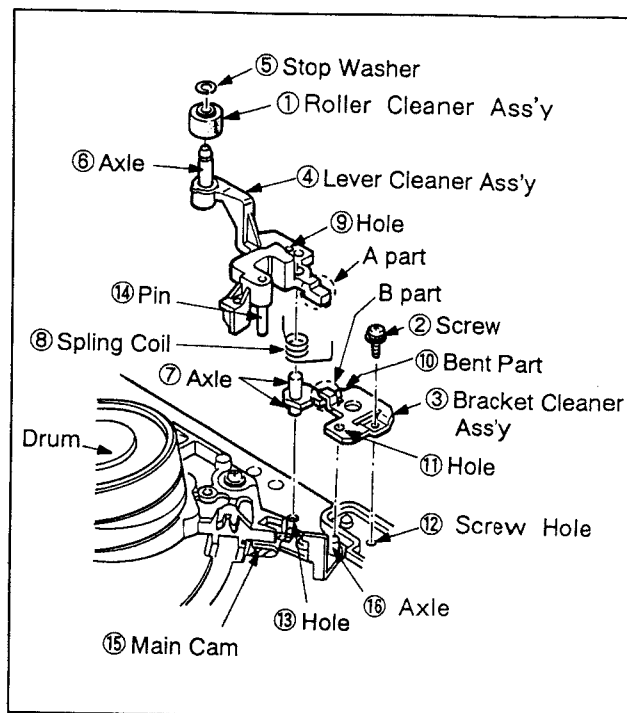
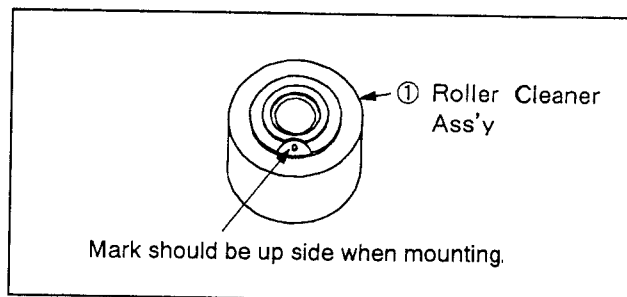
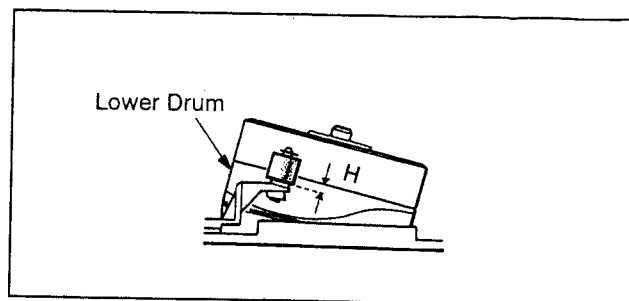

Fig. 5-13-1
Fig. 5-13-2
Fig. 5-13-3
5-13. AUTO HEAD CLEANER MECHANISM (See. Fig. 5-13-1 • Fig. 5-13-2 • Fig. 5-13-3)
- 1) Mount the ROLLER CLEANER ASS'Y ① and the stop washer ⑤ to the axle ⑥ of LEVER CLEANER ASS'Y.
Mount the ROLLER CLEANER ASS'Y ① so that the mark shown in Fig. 5-13-2 is up side. If the mark is down side, noise may occur.
- 2) Mount the SPRING COIL ⑧ and the LEVER CLEANER ASS'Y ④ to the axle ⑦ of BRACKET CLEANER ASS'Y. At this time, hook the SPRING COIL ⑧ to the hole ⑨ of the LEVER CLEANER ASS'Y and the bent part ⑩ of the BRACKET CLEANER ASS'Y. "A part" of the LEVER CLEANER ASS'Y should be under "B part" of the BRACKET CLEANER ASS'Y.
- 3) Fix the BRACKET CLEANER ASS'Y ③ on screw hole ⑫ by screw ②. Before fasten screw ②, insert hole ⑪ of the BRACKET CLEANER ASS'Y to axle ⑬, axle ⑦ to hole ⑬ to match positions. Pin ⑭ of the LEVER CLEANER ASS'Y should be run along the circumference of the MAIN CAM ⑮ not to be came off.
- 4) The upper side of the lower drum should be within approx. 2mm from the lower side of the ROLLER CLEANER ASS'Y as shown in Fig. 5-13-3.